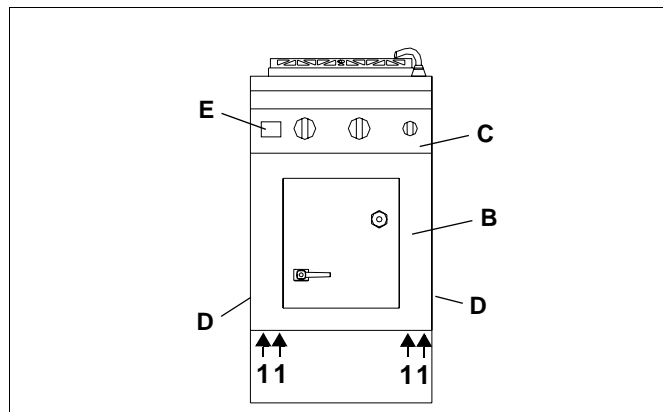

Fig. 5 General view
The specification plate (E) is located in each case inside and outside on the right of the operator panel (D/Seite 16 Fig. 5).